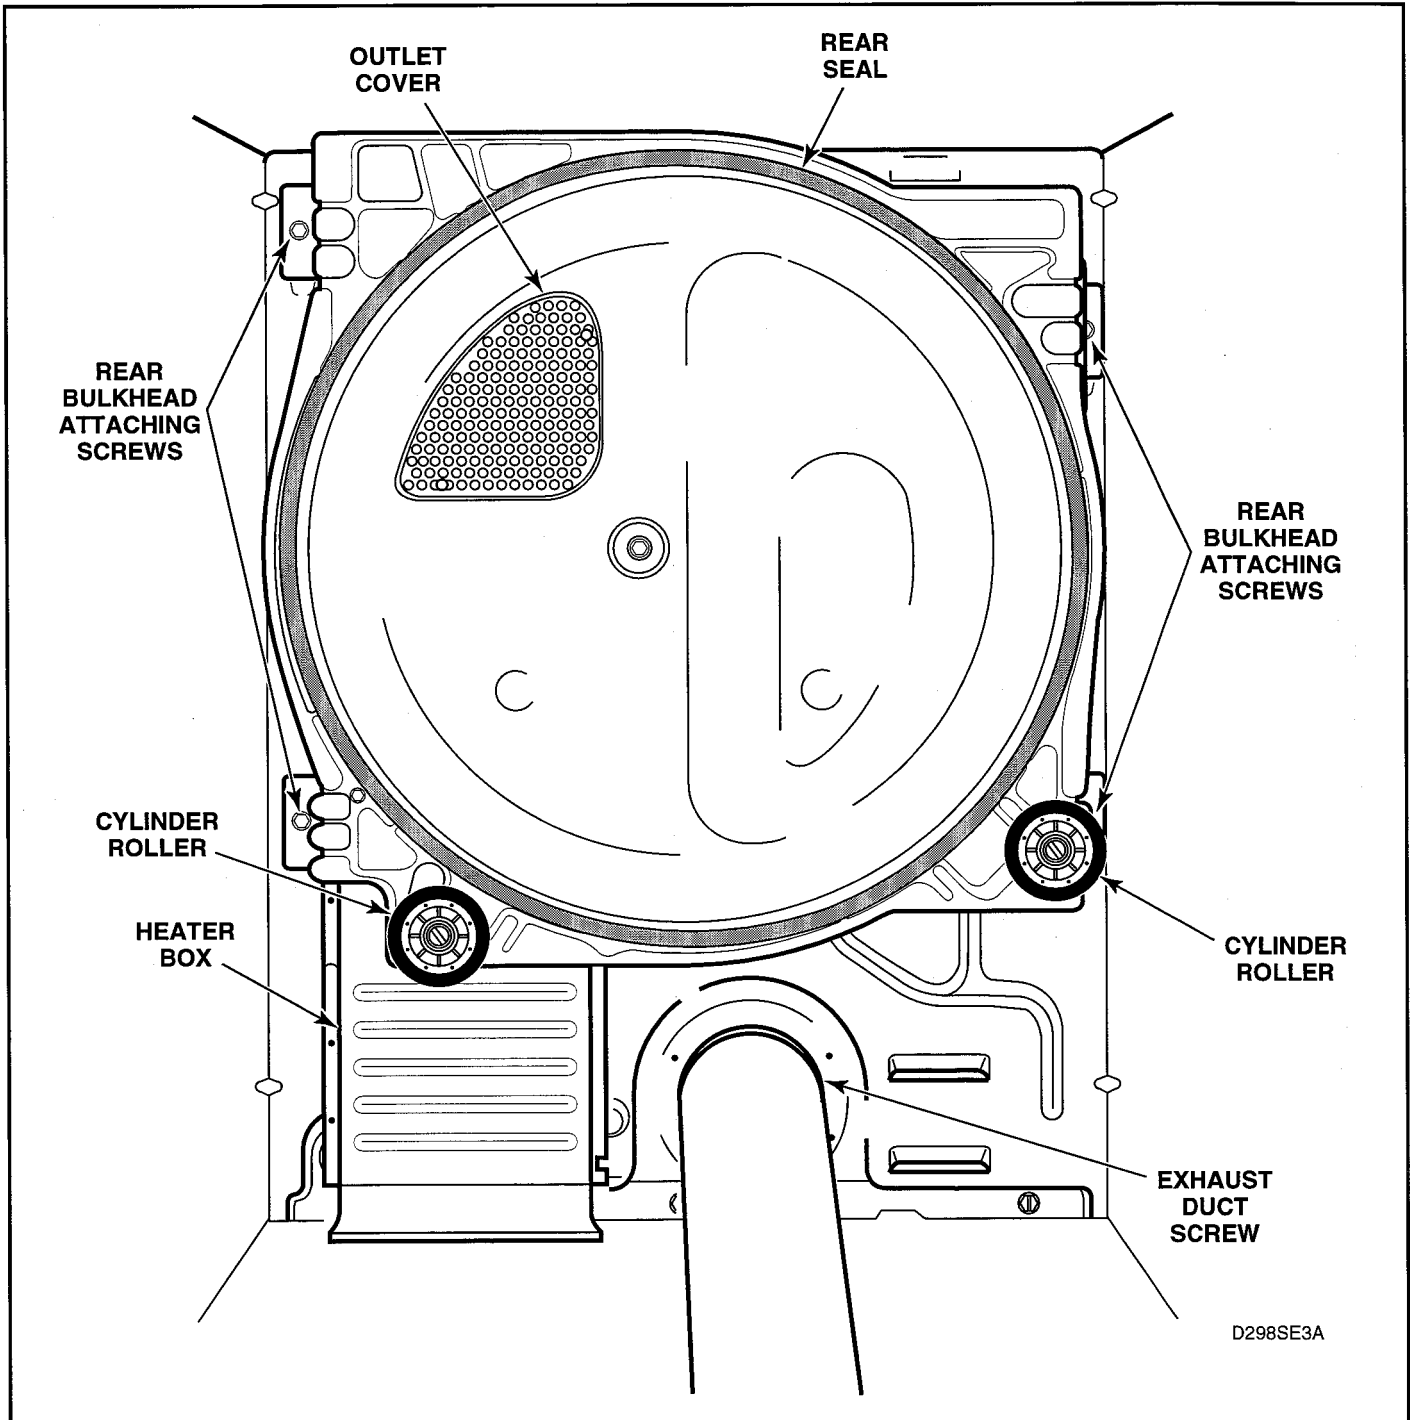

Figure 5-27
- j. Pull rear cylinder seal from flanged edge of bulkhead. See figure 5-27.
- Open door and remove two screws (if present) holding outlet cover to rear bulkhead. See figure 5-27.
- k. While supporting bulkhead, remove the four screws holding rear bulkhead to dryer cabinet, then lift complete assembly out of dryer. See figure 5-27.